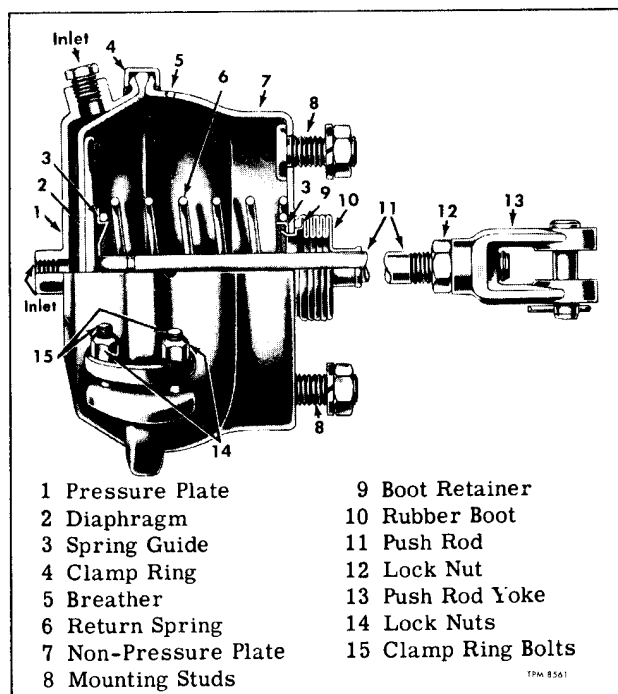

Figure 18—Brake Chamber
A rubber boot, shown in figure 18, keeps dirt and water out of brake chamber. Four equally spaced 1/4" holes near clamping ring, provide for breathing on non-pressure side of diaphragm.
Disassembly (Fig. 18)
4. Inspect pressure plate and non-pressure plate. Clamping flanges on plates should not be bent or otherwise damaged. Replace damaged parts. Install new part if boot retainer is damaged or badly corroded. Remove damaged retainer with a punch or a chisel. Keep spring guide for reuse. Install retainer and bend inner edge to about 45°, locking spring guide in place as shown in figure 18.
Assembly (Fig. 18)